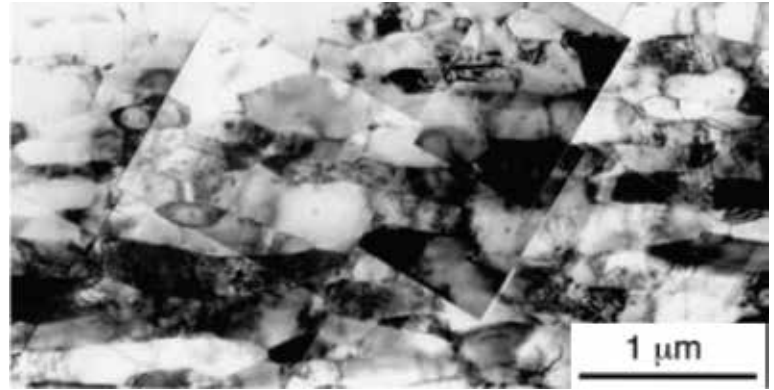

Fig 3 TEM image of interstitial free (IF) steel ARB processed by 7 cycles ($\epsilon = 5.6$) at 773 K. Observed from transverse direction (TD).
Figure 3 is a typical microstructure of the elongated ultrafine grains in ultra-low-carbon IF (interstitial free) steel processed by ARB through seven cycles ($\epsilon = 5.6$) at 500 $^{\circ}\text{C}$. The grains are elongated along rolling direction (RD). In most cases, the mean grain thickness of the pancake-shaped UFGs or the ultrafine lamellar structures are 100 - 200nm for the ARB processed materials (Fig.3 and Table 1). The ARB at lower temperature results in smaller grain size within the similar materials. Similar microstructures appear in the ARB processed aluminum alloys. These microstructures resemble the lamellar boundary structures observed in heavily deformed materials. The formation process of the UFGs during the ARB process is suggested via a continuous recrystallization (or in-situ recrystallization) characterized by ultrafine grain subdivision, recovery to form UFGs, and short range grain boundary migration.